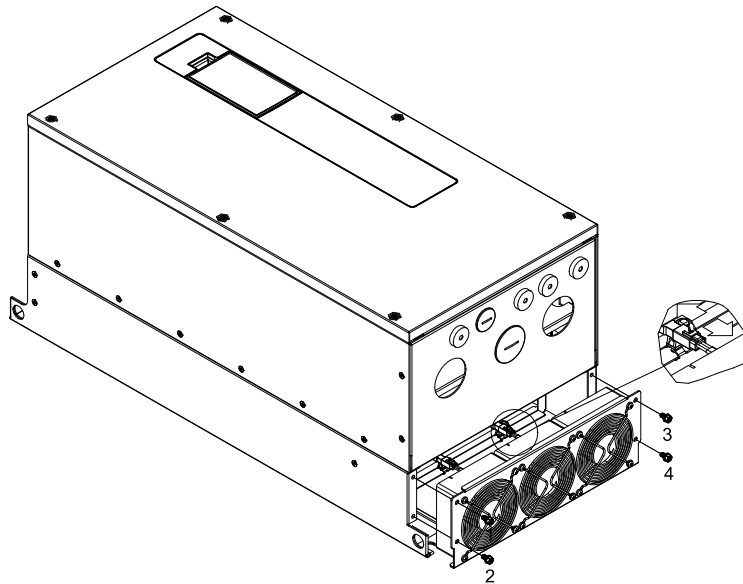

Figure 7-68
2. Before pulling out the fan, make sure the fan power is disconnected. (Refer to Figure 7-68)